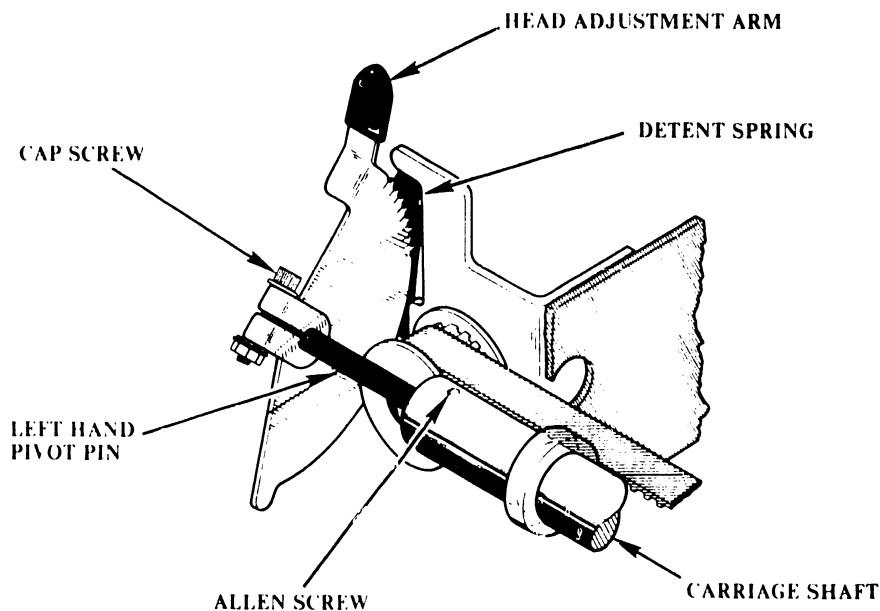

FIGURE 6-8 HEAD ADJUSTMENT ARM ASSEMBLY
- 1) Move the head-adjustment arm to position 5 and check that Allen screw in carriage shaft is vertical. (See Figure 6-8.)